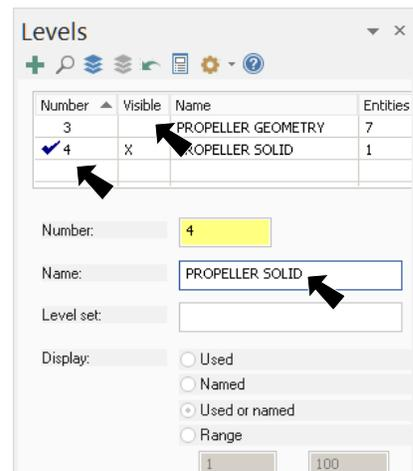

Fig. 31
Step 4. In the Levels Manager (Alt-Z), Fig. 31